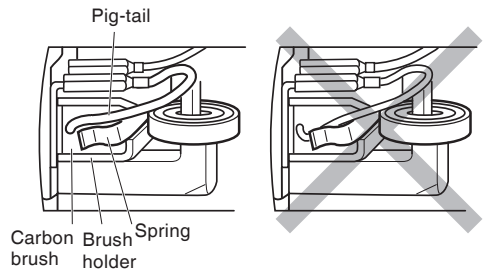

Fig. 7
4. Replacing carbon brushes (Fig. 7)